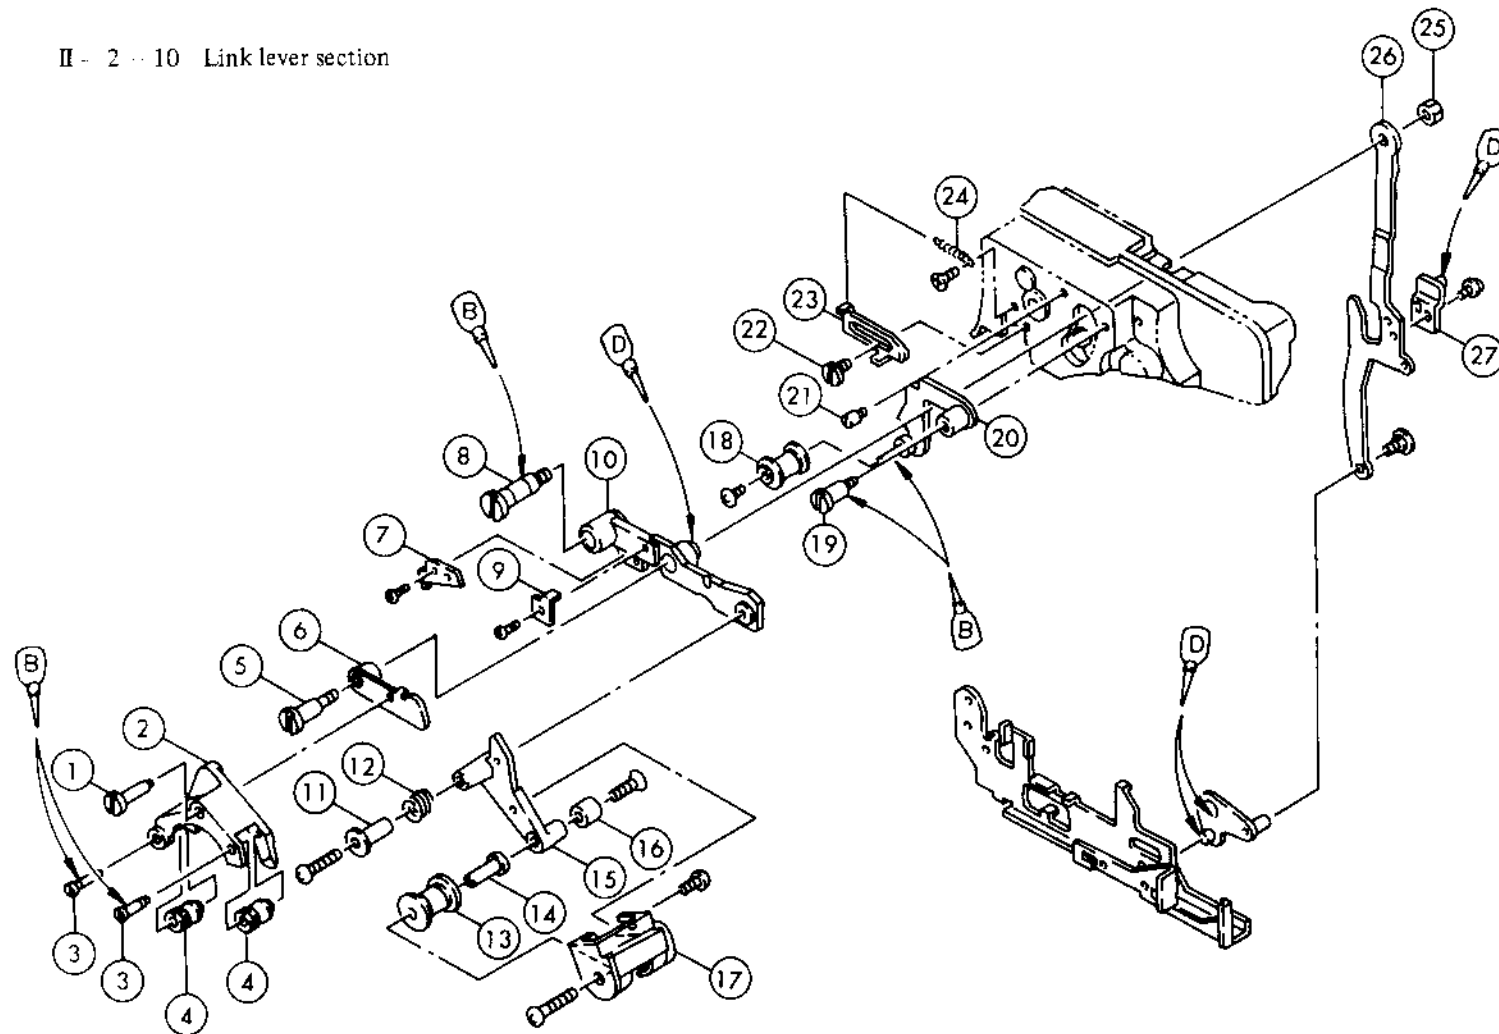

Fig. 37
3. Remove ⑧ and ⑫, then take out assy parts of ① - ⑦ and ⑨ - ⑭. Take utmost care when unscrewing ⑧ so as not to damage the screw head, taking note that the ⑧ is firmly tightened. Also, note that ⑫ is firmly tightened with ⑩ in W-nut method.
4. For further disassembly, refer to Fig. 37.